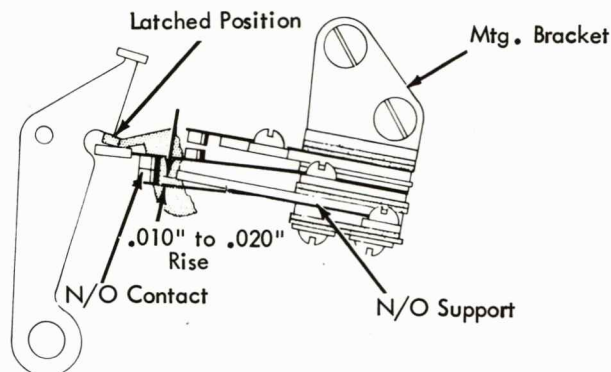

FIGURE 150. Carrier Return Interlock Active
- c. With the carrier return clutch latched, position the mounting bracket so that the N/O contact rises .010" to .020" from the N/O support (Fig. 150).